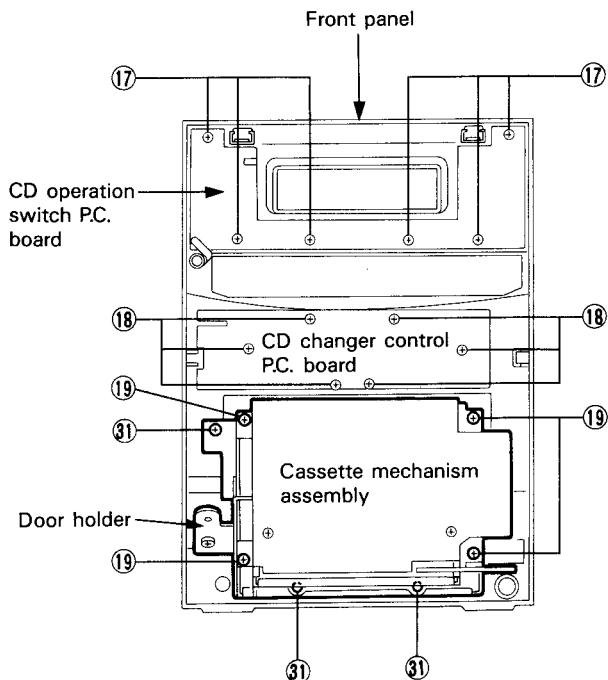

Fig. 7-16
- Method of removing the CD operation switch P.C. board, CD changer control switch P.C. board and so forth (Refer to Fig. 7-16).
7. From the front panel assembly, remove the six screws ⑯ retaining the CD operation switch P.C. board.
8. Remove the six screws ⑰ retaining the CD changer control switch P.C. board.
- Method of removing the cassette mechanism assembly and door holder assembly (Refer to Fig. 7-16).
2. Remove the four screws (19) retaining the cassette mechanism and door holder, and dismount these mechanism and assembly from the front panel assembly.
3. From the front panel, remove the three screws (31) retaining the door holder assembly.